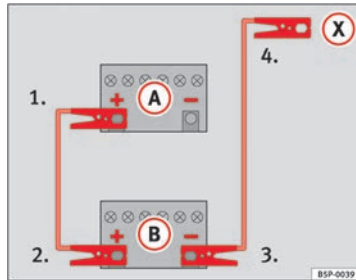

Fig. 169 Diagram of connections for vehicles without Start-Stop system
- Connect one end of the *red* jump lead to the positive \oplus terminal of the vehicle with the flat battery $\textcircled{A} \Rightarrow$ Fig. 169.
- Connect one end of the *black* jump lead to the negative terminal \ominus of the vehicle providing assistance $\textcircled{B} \Rightarrow$ Fig. 169.